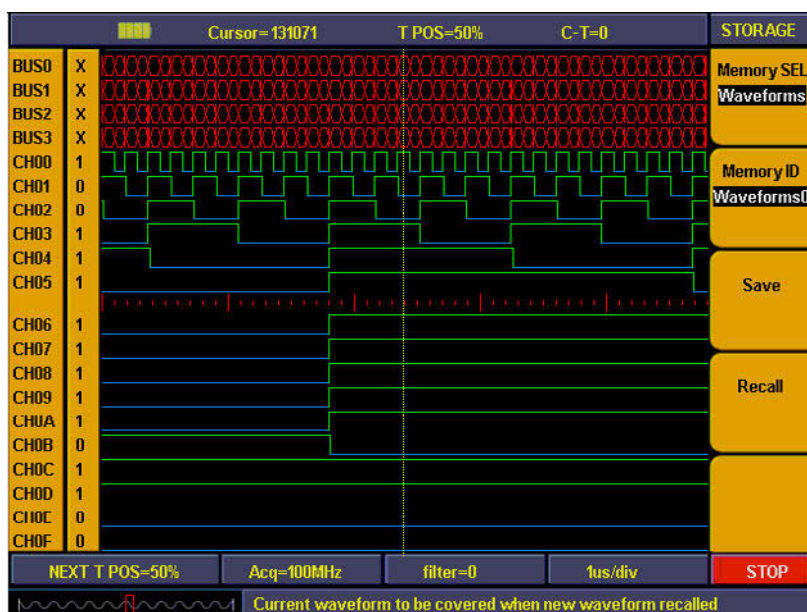

Figure 95. Waveform saving.
- 8 Press "**F4**" to recall the memory waveform or settings (refer to Fig. 95).